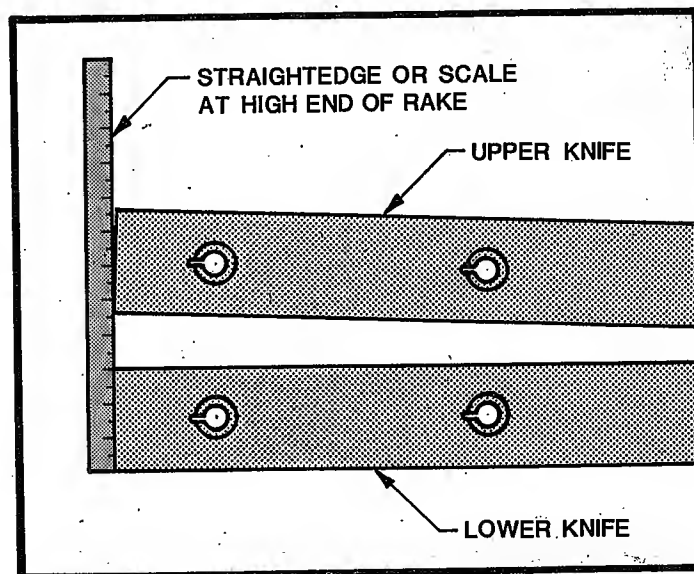

FIGURE 61
44. Push the upper knife to the right and center the upper knife with the lower knife. Refer to Figure 61.